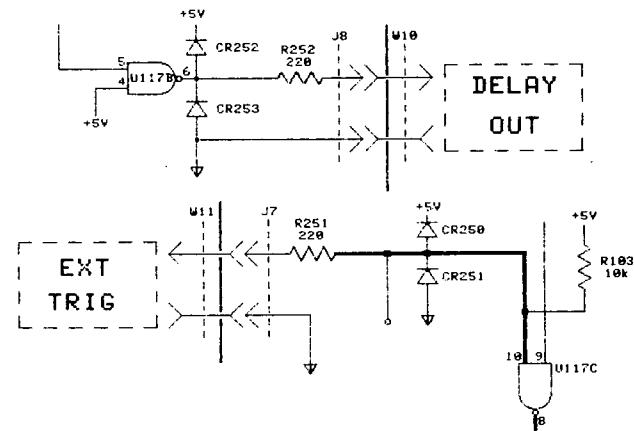

Figure C-3. Schematic 3 Changes (Change No. 10)
**Schematic 3 Changes.** Refer to Figure C-3 for the changes.